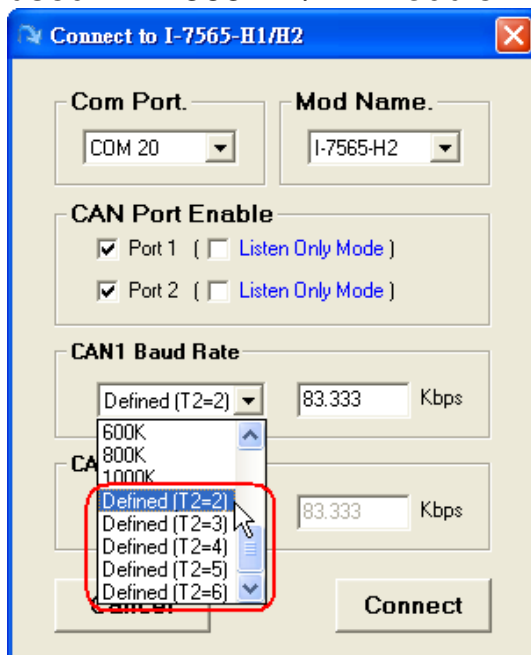

Figure 7-14-1 Adjust “T2”
- (1) Adjustable Bit-Timing parameter, Tseg2 value, of CAN baud rate like Figure 7-14-1.